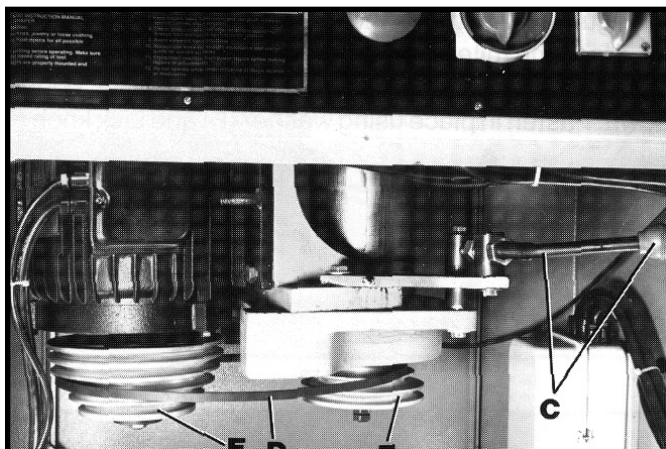

Fig. 42
2. Move belt tension lever (C) Fig. 42, to the right as shown, to loosen belt tension. The belt (D) can then be moved to the desired steps of the motor pulley (E) and spindle pulley (F).